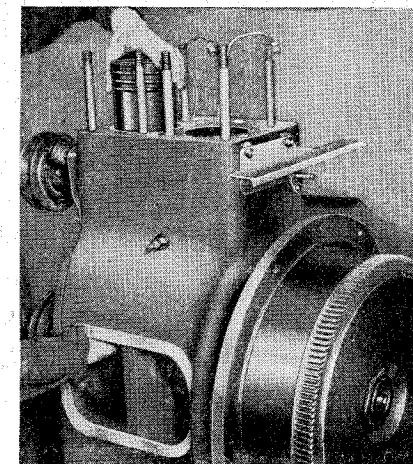

Fig. 25.
4. Pull upwards the connecting rods complete with the other half of the big end bearing shell and the pistons (see Fig. 25).